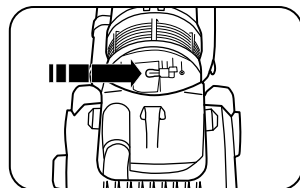

Fig. 7
3. Remove the lens and replace the bulb (Fig. 7).